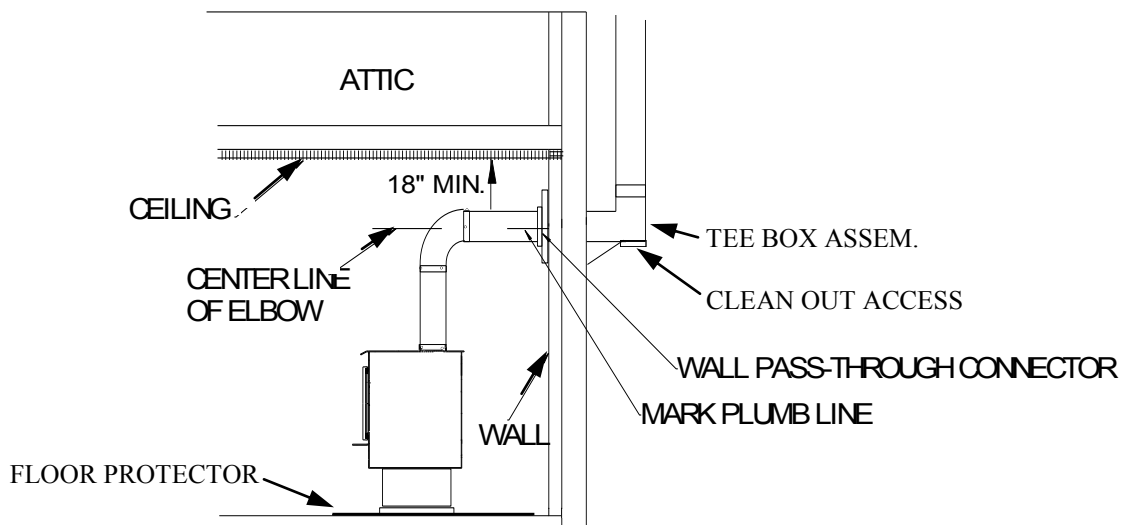

Figure 15
1. Mark plumb line on wall directly behind center of heater. (See Figure 15).
**NOTE:** When using 24# ga. minimum blue or black steel pipe, maintain 18" between pipe and ceiling. (See Figure 15).
3. Measure up so there will be at least 1/4" rise per foot of horizontal connector pipe, maintaining clearances to ceiling as noted in (Figure 15). This will give you center of hole for chimney penetration.